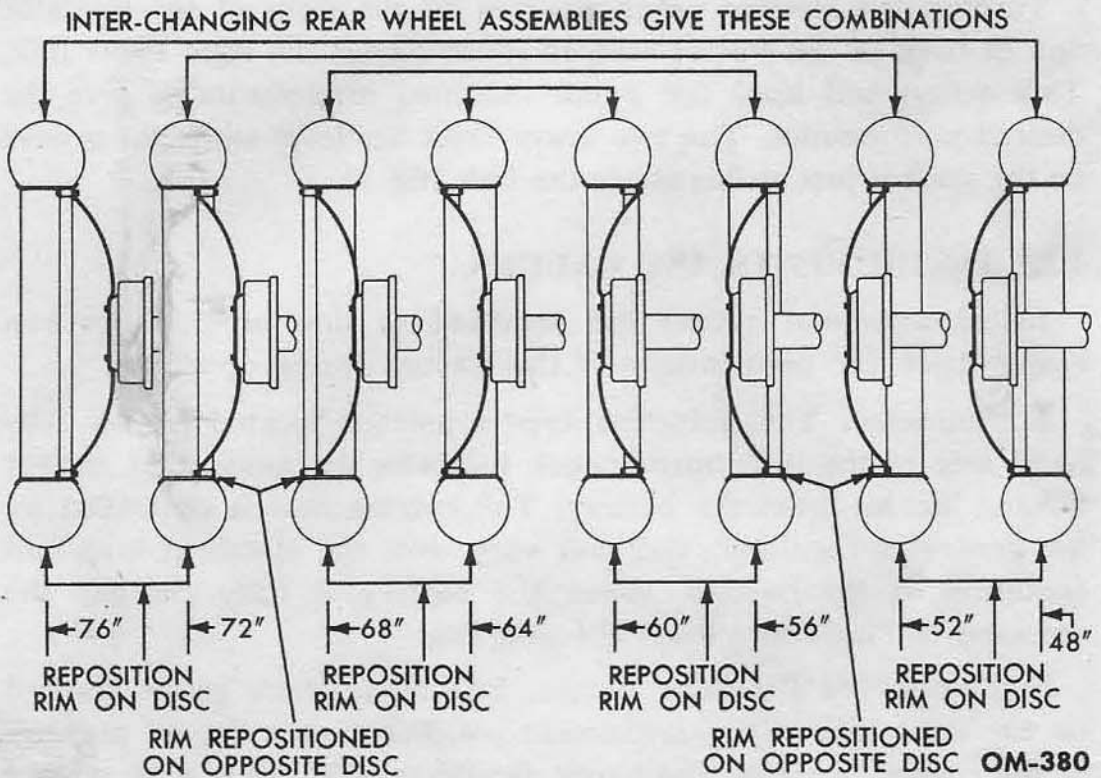

Fig. 8—Rear Wheel Tread Adjustment
a. Rear Wheels. The rear wheels are adjustable from 48 to 76 inches tread in 4-inch spacings. Tread width settings are made by changing the position of the steel disks and the rims. The tread is widened by installing wheel disks in convex or concave position and/or by installing rims in any of the four positions as shown in fig. 8. To make the change from 52 inch tread to 72 inch tread, it is only necessary to change the wheels from one side of the tractor to the other. Other wheel changes are similar and are shown in fig. 8.